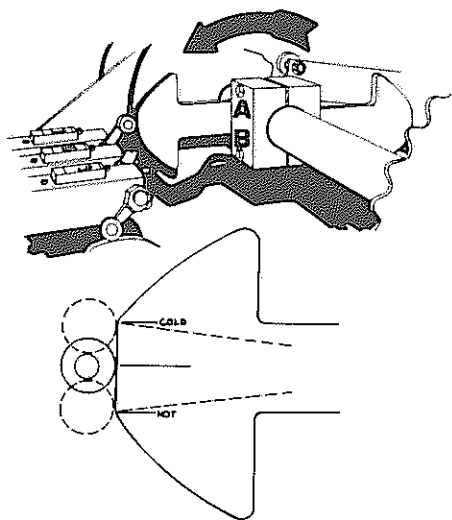

Fig. 38
7. Loosen and tighten appropriate clamp bolts (A) and (B) in order to rotate cam as necessary to center it on the switch arm roller, see Fig. 38.
14. Check needle yoke stopping position. The cam should stop with the switch arm roller near the center or slightly beyond the center of the cam as illustrated in Fig. 38 (Cool and hot oil location).
17. Repeat Steps 8-16 omitting Step 15 until the cam is in required location, see Fig. 38.